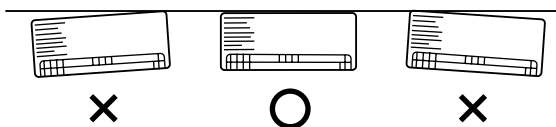

Fig. 3-20
- (2) Check with a tape measure or carpenter's level. This is important so that the unit is correctly installed. (Fig. 3-20)